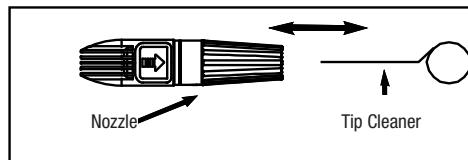

Figure 5 – Insert the tip cleaner into the nozzle hole and move it back and forth until debris is dislodged
- Using the included tip cleaner or an unfolded paper clip, insert a wire into the nozzle hole and move it back and forth until the debris is dislodged (see fig. 5).